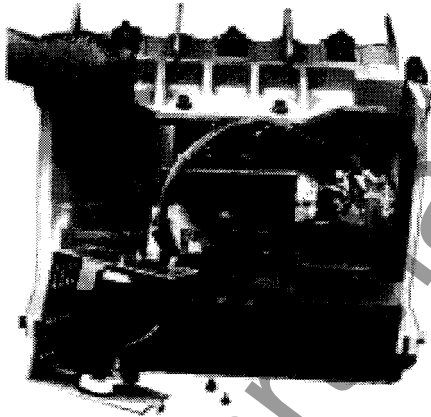

Figure 9 Adjustment Location
2. Remove two front hex head screws (item 47) to free electrical interlock assembly.
5. Place 0.030" gauge between armature and magnet frame (refer to Figure 9).